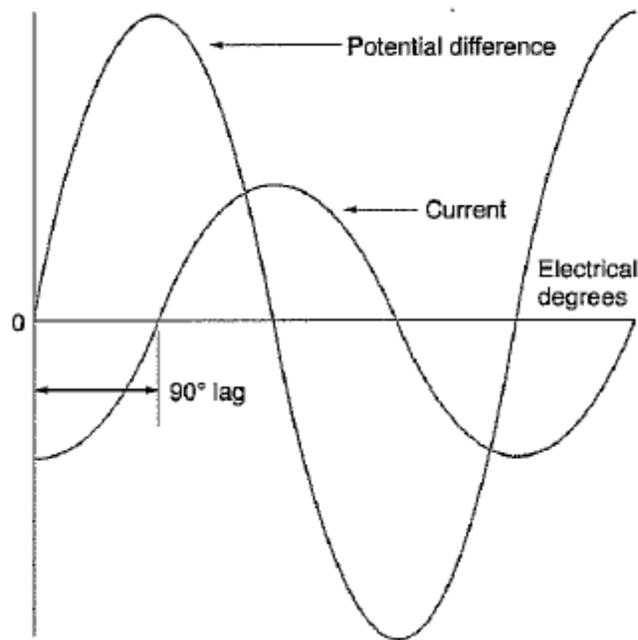

Figure 9.7: Current lagging Potential Difference
- 9-33 In addition to *opposing* a change in current, a coil *delays* the change. Figure 9.7 shows the delay. Notice that the frequency of the current equals the frequency of the potential difference. That is, the time between peaks is the same for both curves in Figure 9.7. But the curve for current is delayed 90° compared to the curve for potential difference.